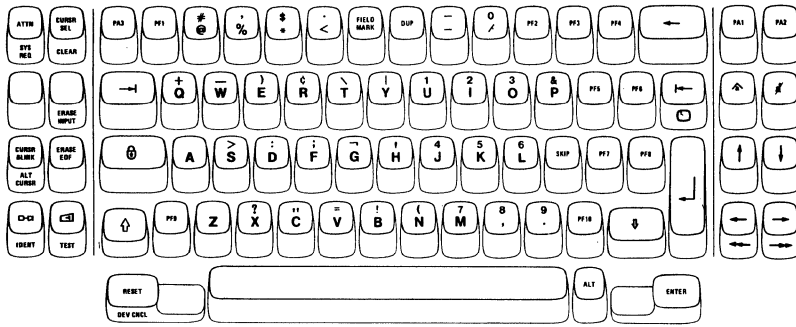

Figure 5-5. 3276 Date Entry Keyboard.
- The Data Entry keyboard (Figure 5-5), which is similar to the 3275 and 3277 Data Entry keyboard